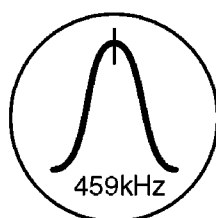

Fig 2
3. Revolve the T1 core and adjust that the output waveforms reaches maximum. (Fig. 2)